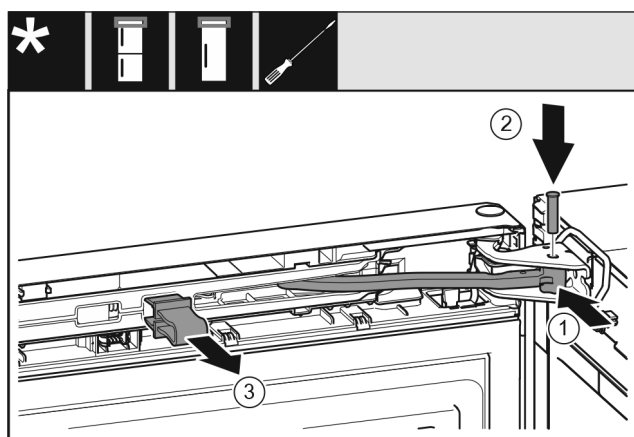

Fig. 42
- ▶ Turn the joint Fig. 42 (1) in the bearing block.
- ▶ Insert thebolt Fig. 42 (2) into the bearing bracket and joint. Ensure that the latching cam is in the groove properly.
- ▶ Remove the safeguard Fig. 42 (3).